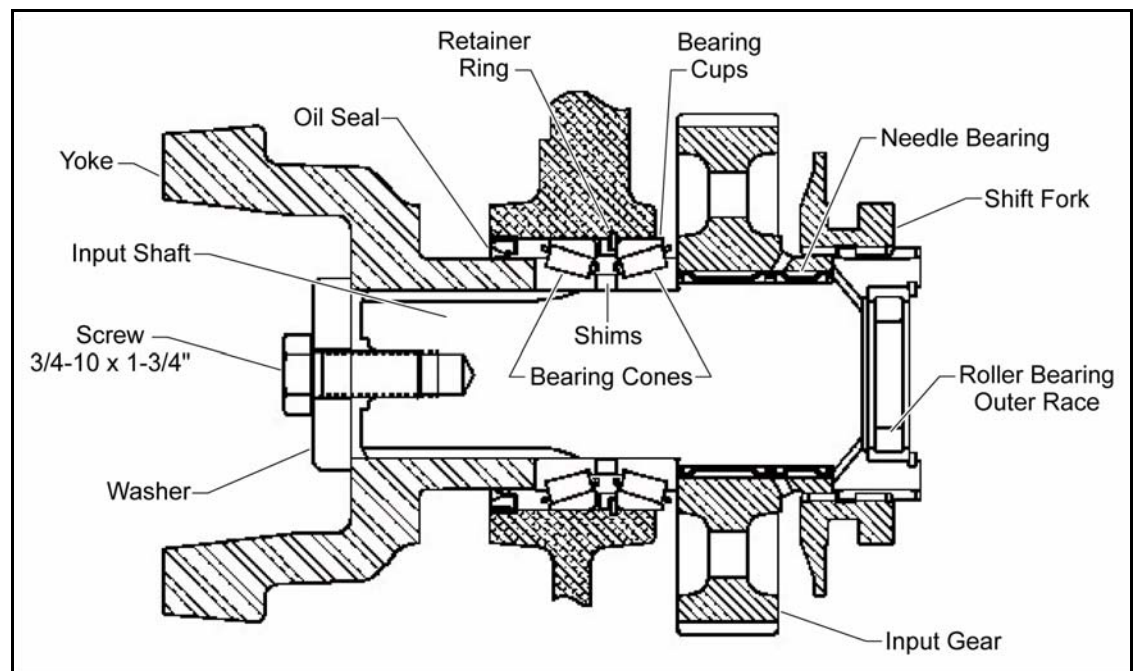

Figure 9-9: Input Shaft Assembly
7. Remove the remaining bearing cone out of the housing. See Figure 9-9, "Input Shaft Assembly," on page 165.
See Figure 9-9, "Input Shaft Assembly," on page 165.